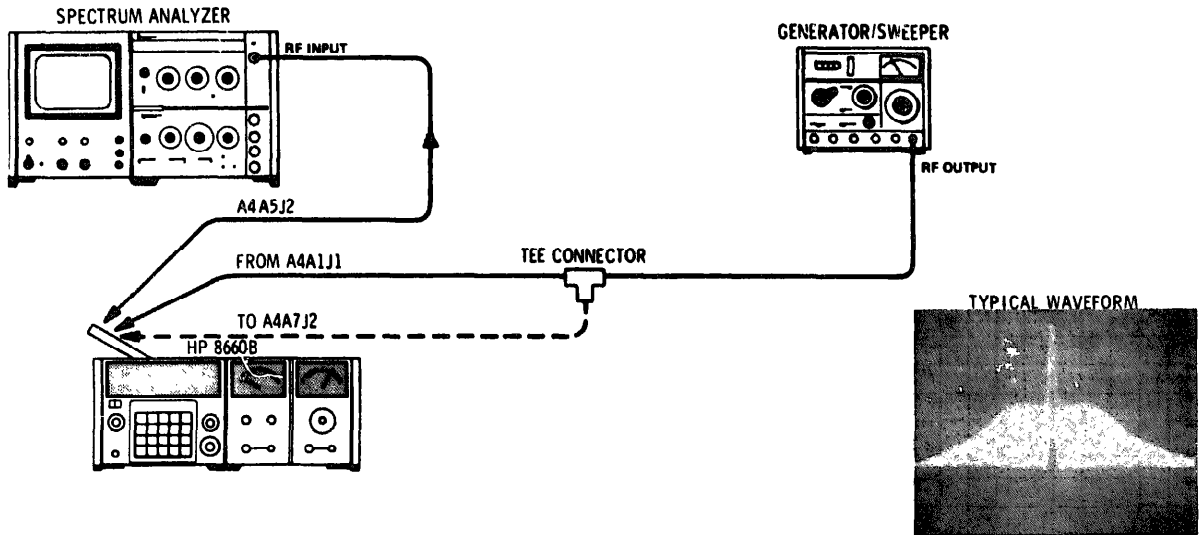

Figure 5-9. Loop Gain Adjustment Test Setup
4. Loop Gain Adjustment (see Figure 5-9)
c. Set the Signal Generator/Sweeper to 11.5 MHz CW at -35 dBm and symmetrical sweep width to 3 MHz. The analyzer display should be approximately as shown in the typical waveform shown in Figure 5-9. Adjust the A4A6 GAIN control (A4A6R2) for the response shown.